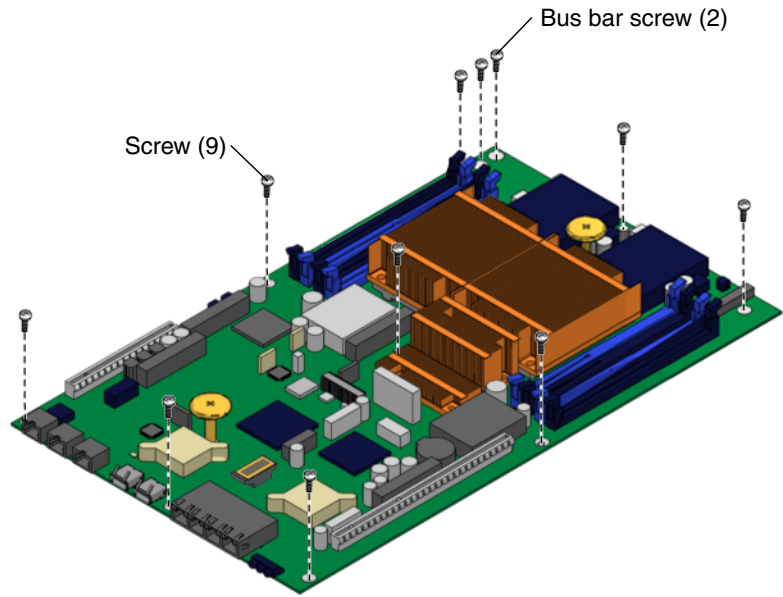

FIGURE 3-22 Removing the Motherboard Assembly Screws
17. Using a number 2 Phillips screwdriver, remove the eleven screws that secure the motherboard assembly to the chassis (FIGURE 3-22).
5. Install the screws that secure the motherboard to the chassis (FIGURE 3-22).